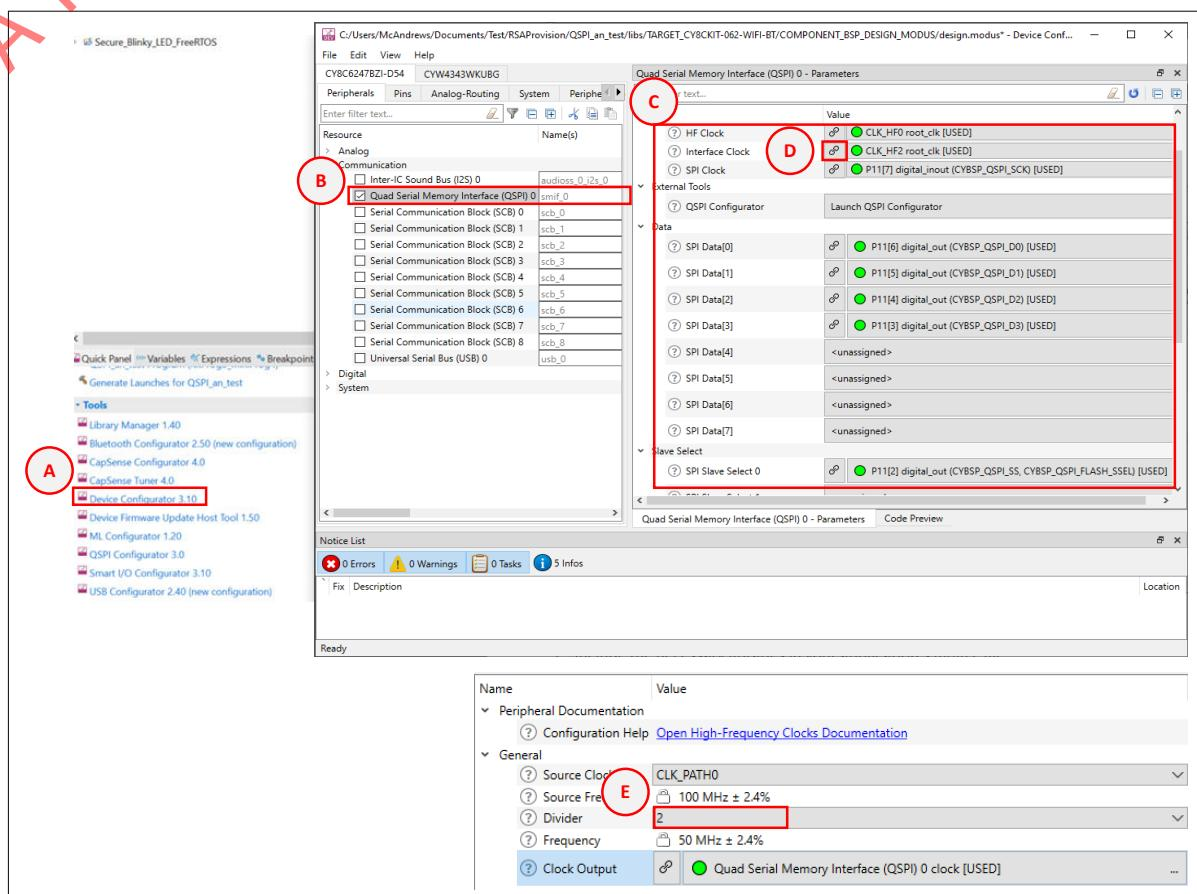

Figure 171 Steps to configure the QSPI block
1. Enable the QSPI hardware with using the device configurator. Figure 171 shows an example configuration suitable for use with any PSoC™ 6 MCU kit that has an external flash device.
- c. Configure the **QSPI** block as shown in Figure 171